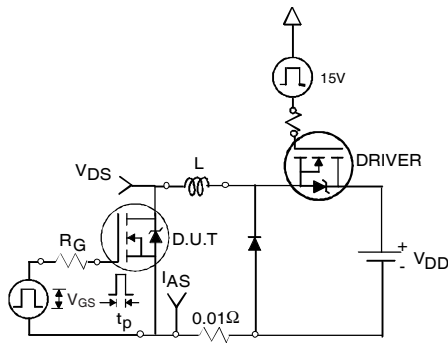

Fig 12a. Unclamped Inductive Test Circuit
- ③ Pulse width $\leq 1.0\text{ms}$; duty cycle $\leq 2\%$.
- ④ $C_{oss \text{ eff.}}$ is a fixed capacitance that gives the same charging time as C_{oss} while V_{DS} is rising from 0 to 80% V_{DSS} .
- ⑤ Limited by T_{Jmax} , see Fig.12a, 12b, 15, 16 for typical repetitive avalanche performance.
- ⑥ This value is determined from sample failure population, starting $T_J = 25^\circ\text{C}$, $L = 8.1\text{mH}$, $R_G = 50\Omega$, $I_{AS} = 5.6A$, $V_{GS} = 10V$.
- ⑦ When mounted on 1" square PCB (FR-4 or G-10 Material). For recommended footprint and soldering techniques refer to application note #AN-994.
- ⑧ R_G is measured at T_J approximately 90°C .
3. Equation below based on circuit and waveforms shown in Figures 12a, 12b.